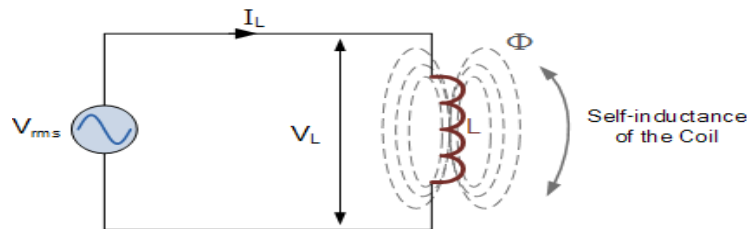

Fig. 4.19
The phenomenon in which emf is induced in a coil by changing the magnetic flux linking the coil itself is called **self inductance (L)** as shown in fig. 4.19. The mathematical expression is given by
A is the cross sectional area of the coil as in fig. 4.19(a).